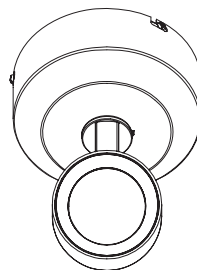

Fig 9
**Step 5:** Reinstall front cap back in place. Ensure torsion spring securely goes back into spring slot on fixture. (See Fig 9)